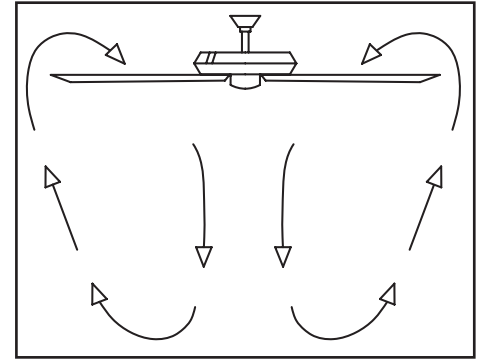

Figure 20
**Warm weather - (Forward)** A downward air flow creates a cooling effect as shown in Figure 20. This allows you to set your air conditioner on a higher setting without affecting your comfort.